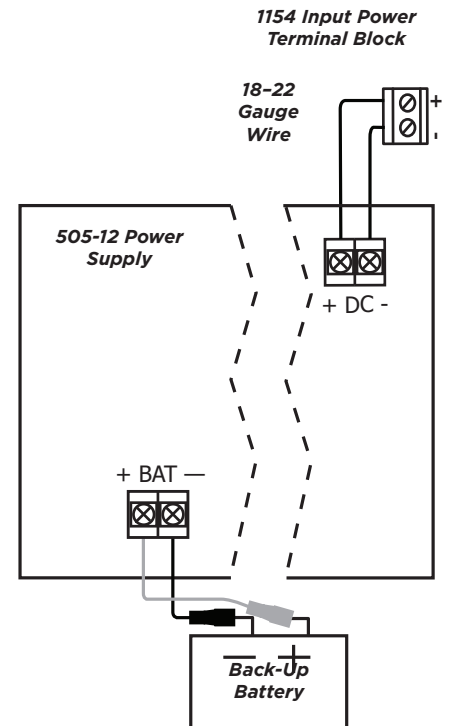

Figure 5: External 12 VDC Power Supply
2. Observing the polarity of all wired connections, use 18 to 22 gauge wire to connect the 1154's input power terminal block to the **+ DC -** terminal on the 505-12 power supply. See Figure 5.